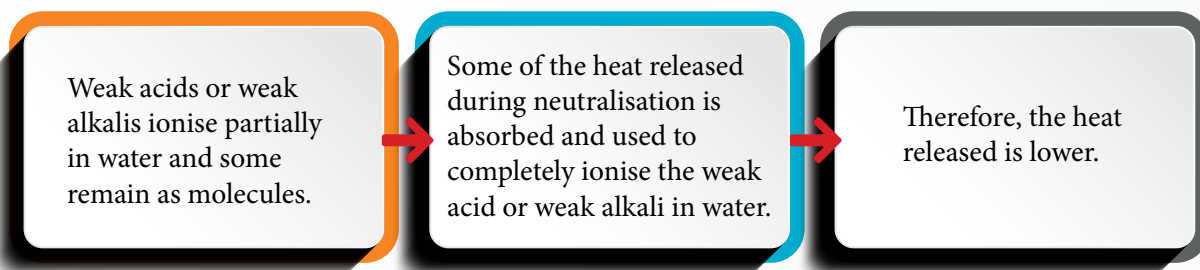

Figure 3.11 Explanation related to heat of neutralisation that involves weak acids or weak alkalis
- Note that there is an influence of acid and alkali strengths over the heat of neutralisation. The value of the heat of neutralisation is lower when weak acids or weak alkalis are used. This is explained in the flow chart of Figure 3.11.